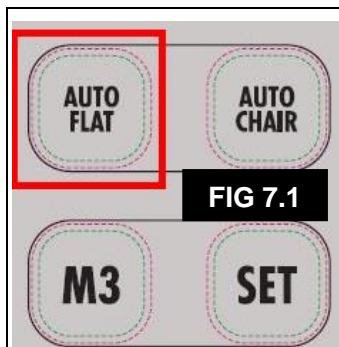

FIG 7.1
**3.7.1 Auto Flat,** position function – this Supine/Flat position has been pre-set for your convenience. To operate – lay the chair position out flat or supine, *press & hold* the button on the handset labelled 'Auto Flat' until all actuators/functions have stopped moving or the desired position has been reached. **See Figure 7.1**